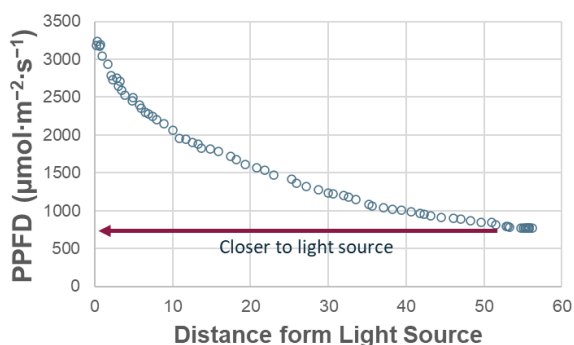

Figure 4. As the distance between a light source and a plant gets small (i.e., closer to one another), PPFD increases.
**Height adjustment example:** In some cases, it is possible to move lights closer to plants to increase the DLI. Reducing the distance between the lights and the plants will significantly increase the PPFD (Fig. 4). Although this option is possible, it has a potential drawback. As lights get closer to plants, the overall uniformity of light distribution decreases. Put another way, when moving lights closer to plants, fewer plants can be effectively illuminated.
**Height adjustment example:** Moving lights further from plants decreases the PPFD (Fig. 4). Lights can be moved away from plants until a desired PPFD is achieved.
In some cases, such as vertical farms, the distance between plants and lights is very small ( $< 16$  inches). In practical terms, as the plants are growing upwards towards lights, the PPFD at the top of the crop can increase significantly (Fig. 4). While this may be desired in some cases, exceedingly high PPFD can damage some plant leaves. If plants are growing too close to the lights, consider raising the lights.